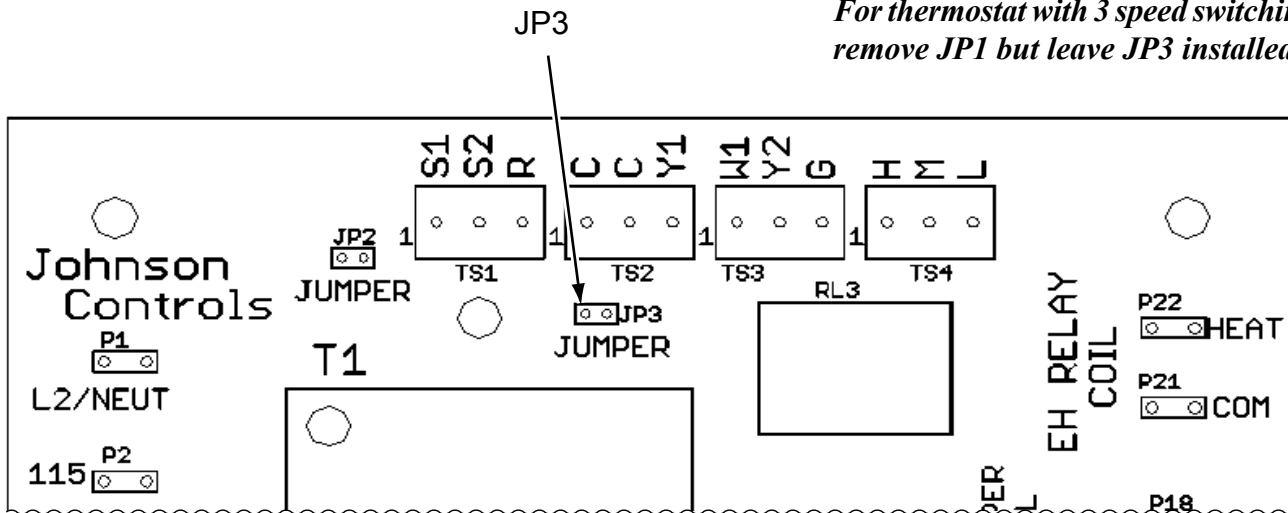
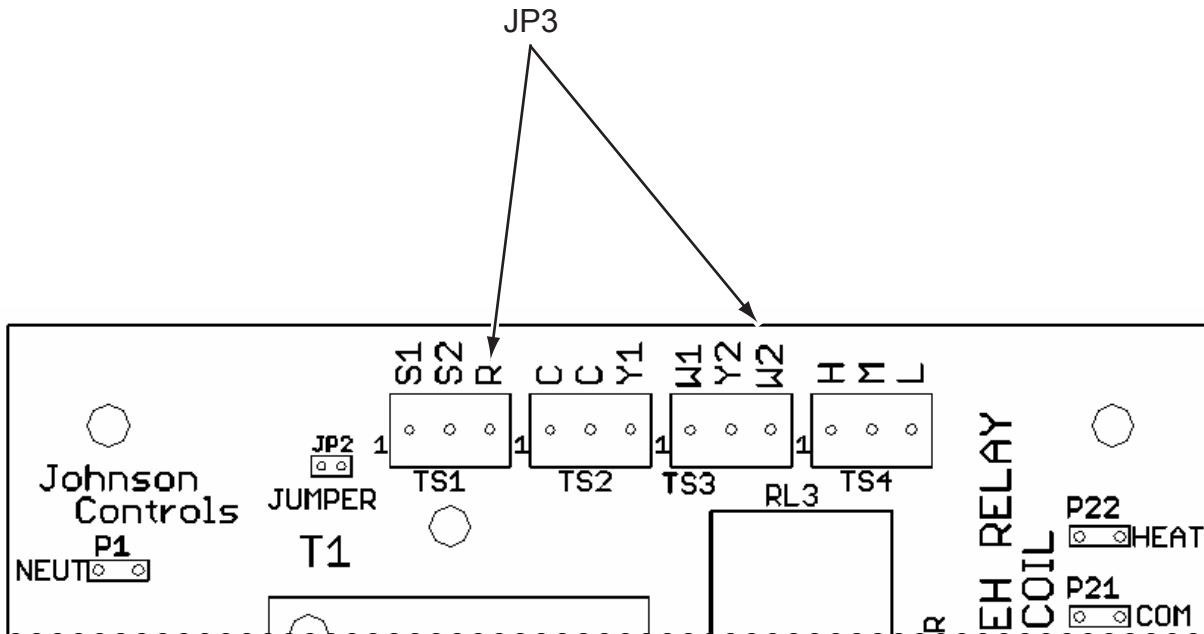

FIG. 5 - FAN COIL RELAY BOARD (CURRENT)
FIG. 6 - FAN COIL RELAY BOARD (OBSOLETE)
- Verify plug jumper JP3 (Figure 5) is installed or wire (Figure 6) is installed between W2 and R.